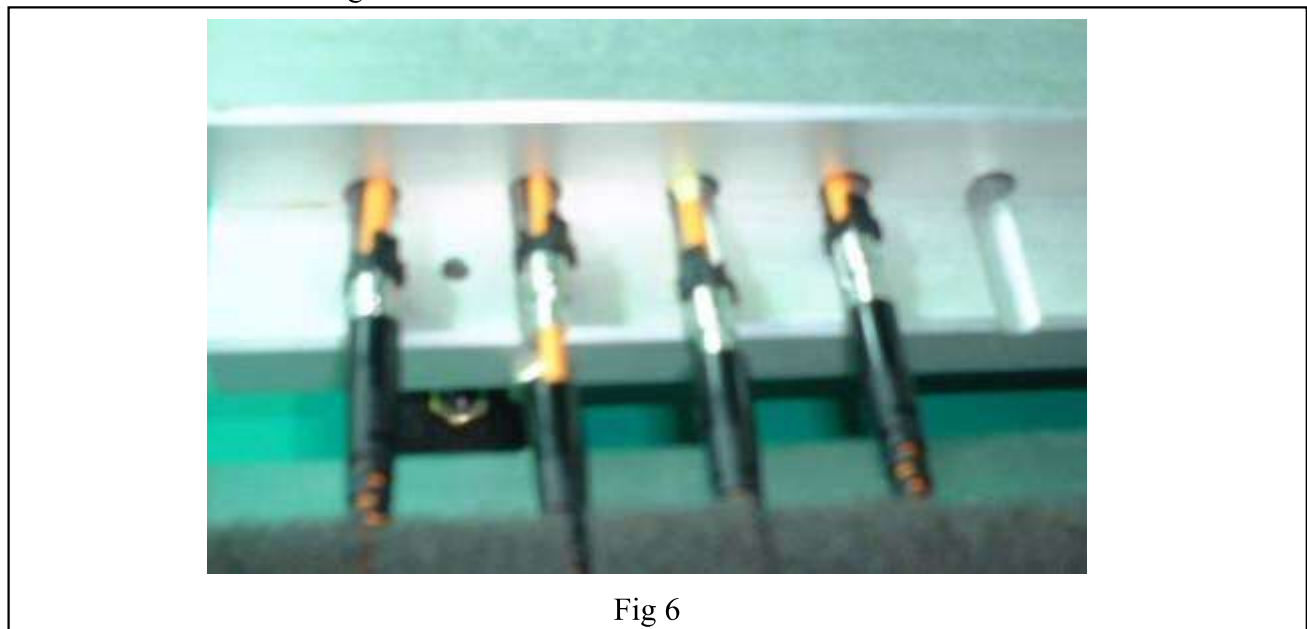

Fig 6
Step 6 Mount the connector carefully onto the curing fixture. Place the connector into curing oven to cure 353ND. See Fig 6.